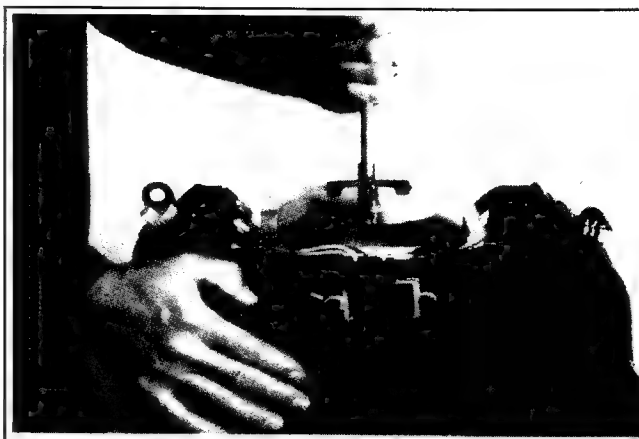

Figure 9-4. Removing Base Plate (Standard Type Shown).
2. Remove the air cleaner base from carburetor elbow by removing the three hex. flange screws. See Figure 9-4. Remove the base plate. Some early engines may also have a spacer between the base plate and elbow.